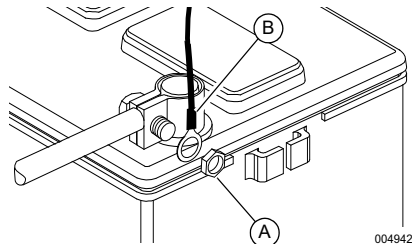

Figure 4-10. Attach Harness Power Wires
9. **For units equipped with Evolution 1.0 controllers or earlier:** See Figure 4-10. Loosen and remove nuts (A) from both positive (+) and negative (-) battery terminal screws on battery cables. Slide harness power wires (B) over battery terminal screws and replace nuts. Tighten securely.